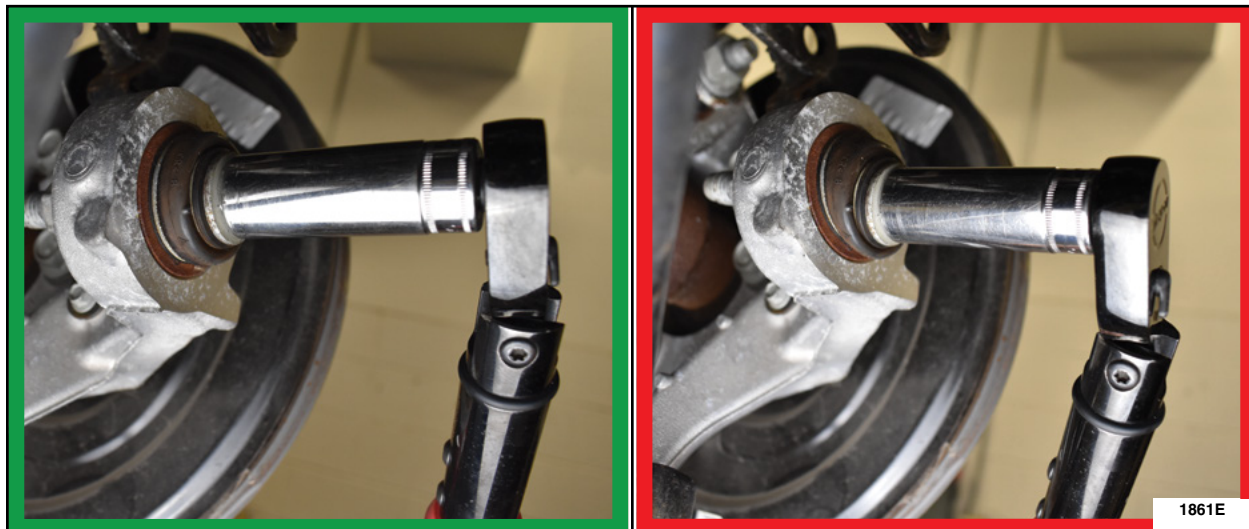

FIGURE 6
8. Set a torque wrench to 11 lb.ft (15 Nm). Apply torque to the toe link to wheel knuckle bolt while keeping the ball joint straight. See Figure 6. Did the ball joint rotate before the torque wrench actuated?